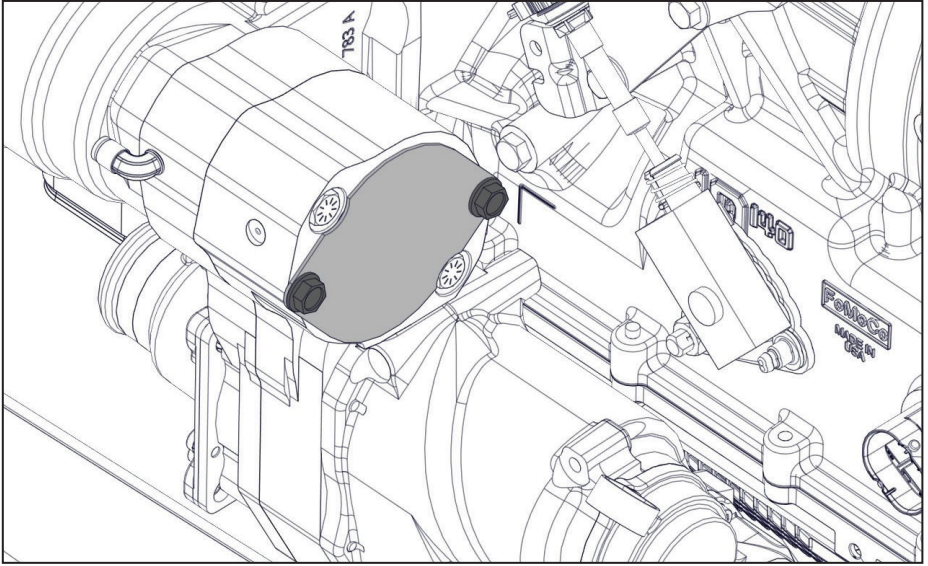

Figure 20 — Install alignment guides
- ☐ Remove the plate from the rear of the compressor gearcase (Figure 20).